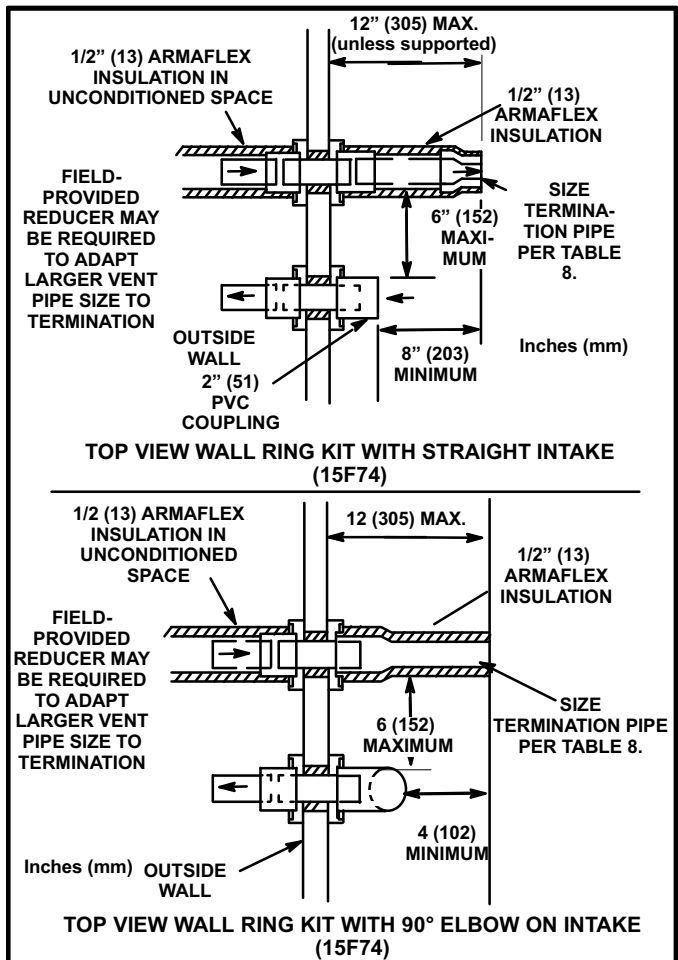

FIGURE 32
- 6 - On field supplied terminations for side wall exits, exhaust piping should extend a minimum of 12 inches (305mm) beyond the outside wall. Intake piping should be as short as possible. See figure 32.